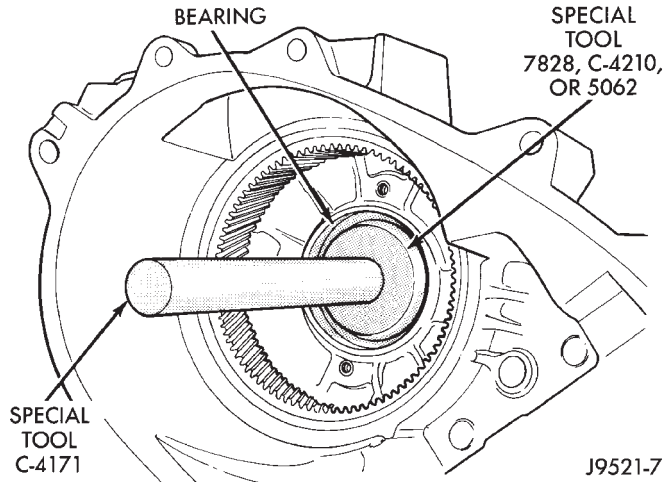
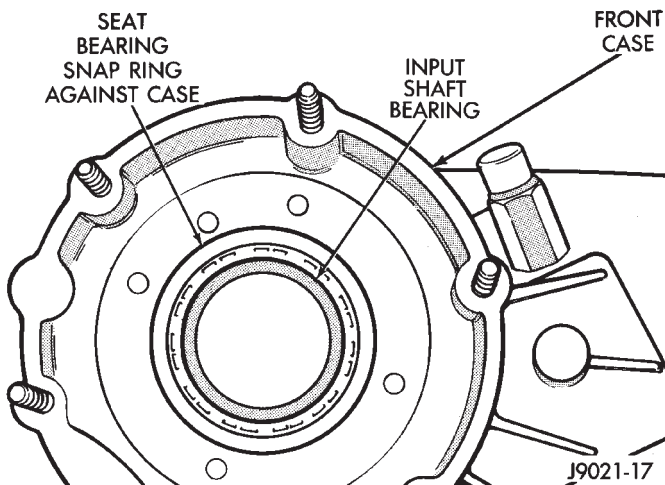

Fig. 34 Input Gear Bearing Removal
Fig. 35 Input Gear Bearing Installation
(8) Remove input gear bearing from front case with Tool Handle C-4171 and Tool C-4210, 7828, or 5062. Use tool that is best fit in bearing (Fig. 34).
(9) Turn front case over.
(10) Start bearing in case by hand. Then seat bearing with Tools C-4171 and C-4210, or 7828 until snap rings seats against case surface (Fig. 35).